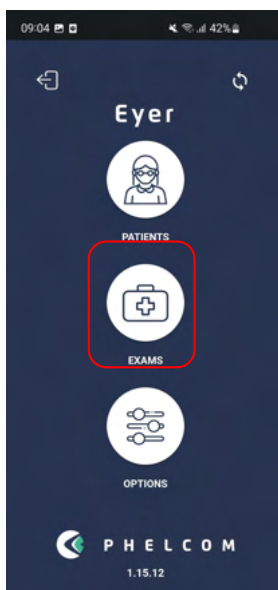
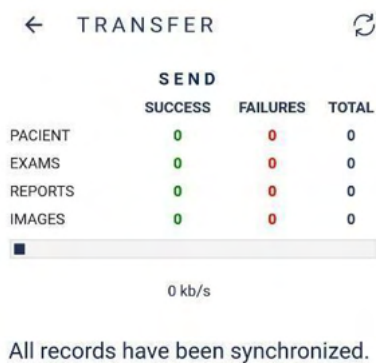

Figure 25 - Home screen - Select exams
Figure 33 – Device transfer status
1. On the home page, the user must click on "Exams", as shown in figure 25
After login, a screen displays, figure 25. It enables accessing all system functions: patients, exams, and options. Click the synchronization icon  , figure 25, to check transfer status, figure 33.
Access option 1, "Patients", in the main screen, figure 25, to register, visualize, alter information, as well as carry out exams and diagnostics through patient information.
Selecting icon 1, figure 25, displays a screen as in figure 34. Here, a list of registered patient names displays. Activate button  and insert patient information. Highlighted fields in figure 35 must be filled in.